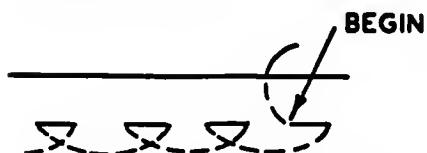

Fig. 72. A hand-pick stitch.
- C. With the garment right side toward you, take a tiny backstitch, pushing the needle diagonally through layers of fabric and picking up a tiny stitch on the underside. Bring the needle out on the right side. Repeat the backstitch, keeping the stitches evenly spaced (Fig. 72).